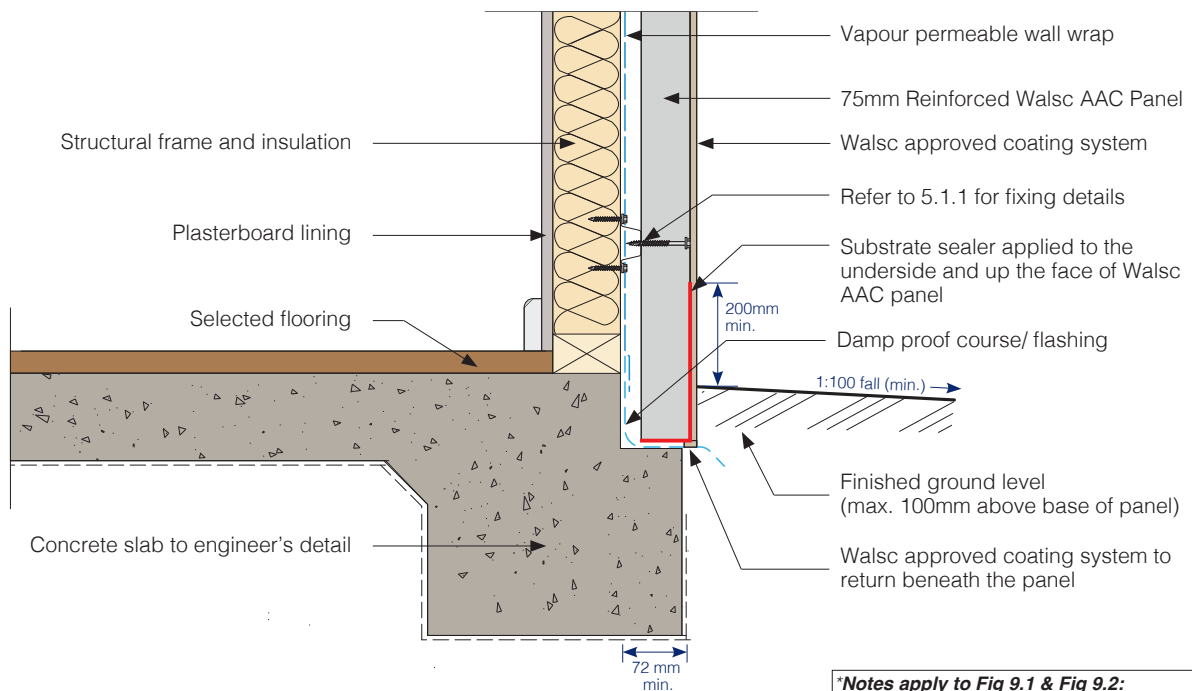
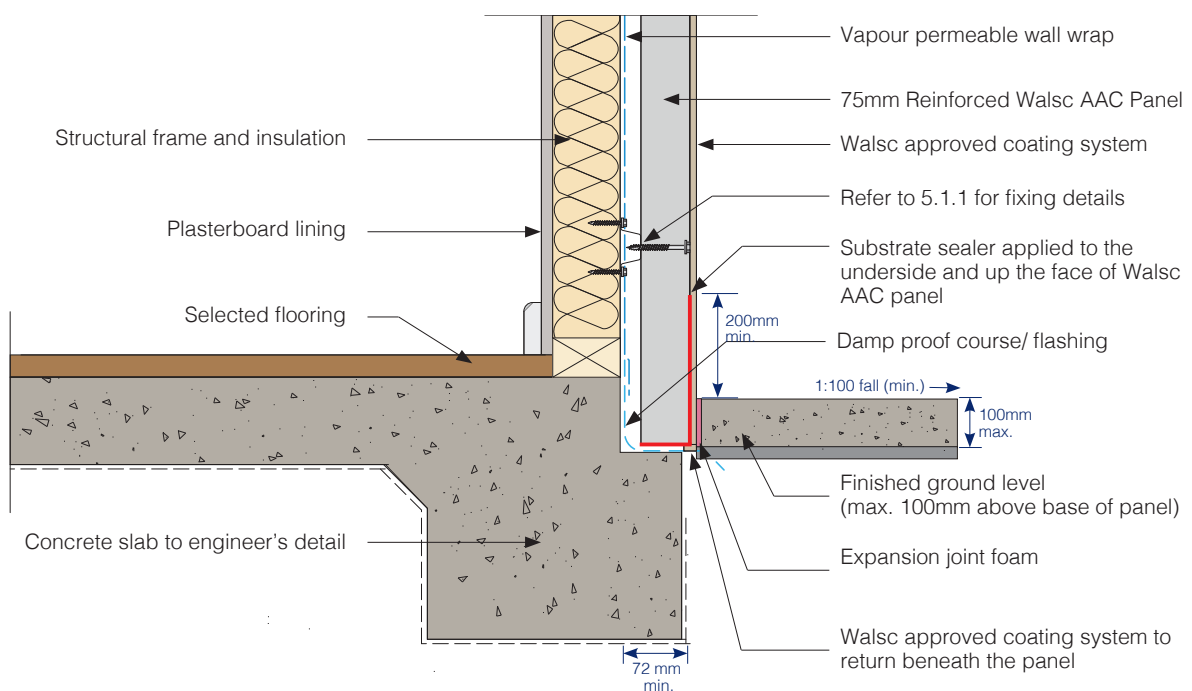

Fig 9.1 Junction to Panel Below Finish Ground Level Detail 1
Fig 9.2 Junction to Panel Below Finish Ground Level Detail 2
***Notes apply to Fig 9.1 & Fig 9.2:**